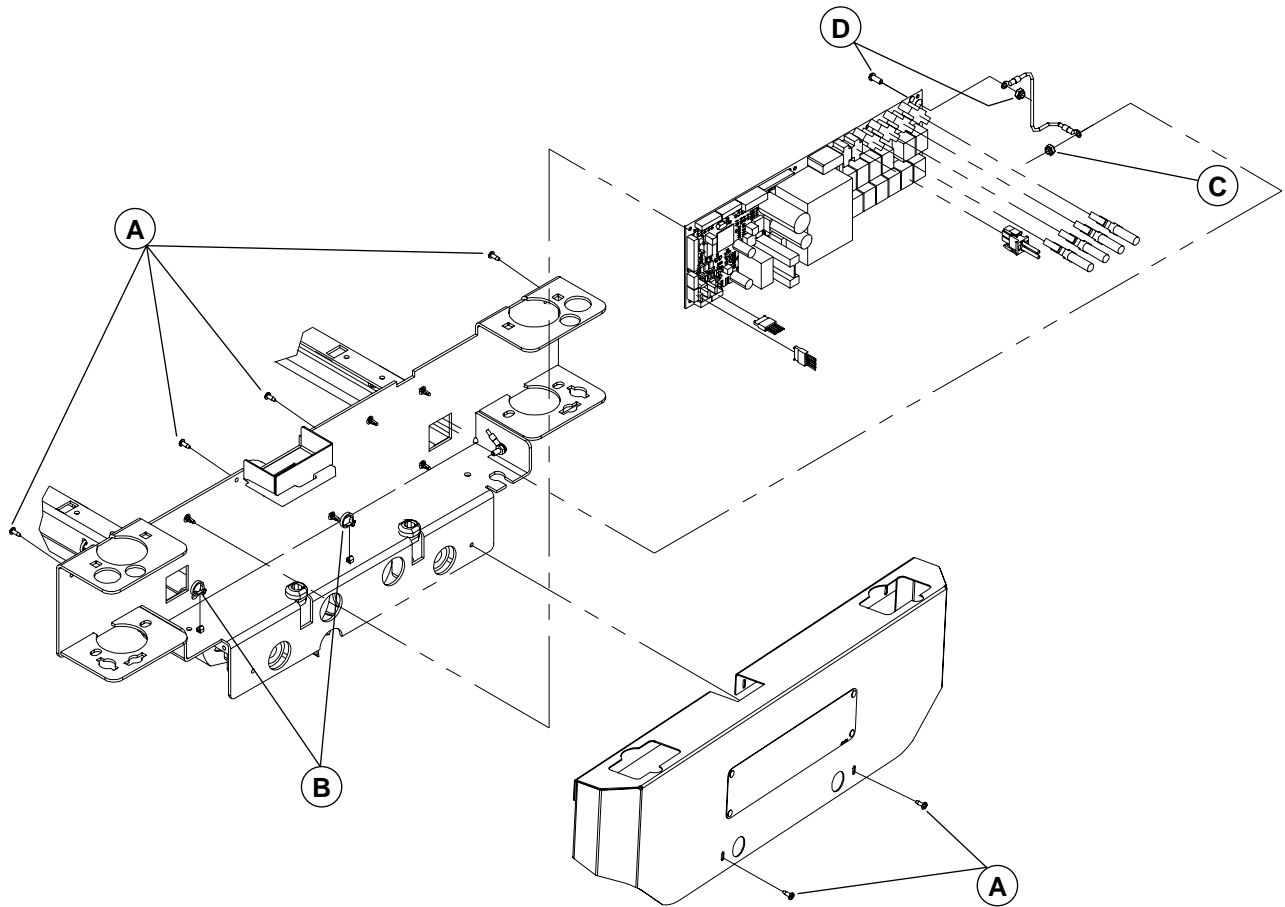

Figure 4.3C
- The capacitor of the foot Hi-Lo actuator is located in the foot casing. To access it, remove the six screws (A, Fig. 4.3C, page 32) holding the cover to the foot casing.
6. Using a 5/16" socket wrench, remove the two screws (M) holding the retaining plate to the actuator support.
7. Remove the two pivot pins (N) holding the actuator to the support. To facilitate the removal of the pins, insert a small slotted head screwdriver into the opening at the end of the actuator and push out the pins.
8. Using a 1/2" wrench, remove the two bolts/washers/shoulder spacers (O) holding the molded nut support to the Hi-Lo lever. Remove the molded nut support and keep it for the replacement Hi-Lo actuator that will have its own molded nut.